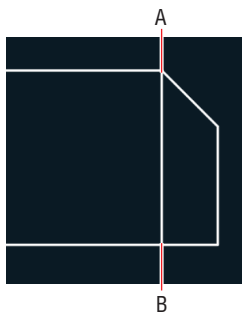

FIGURE 3.13 Overriding running snaps with the Nearest snap
- Zoom into point A or B in Figure 3.13 and verify that the lines are connected perfectly. Click Zoom Extents in the Navigation bar to return to the initial overall view.